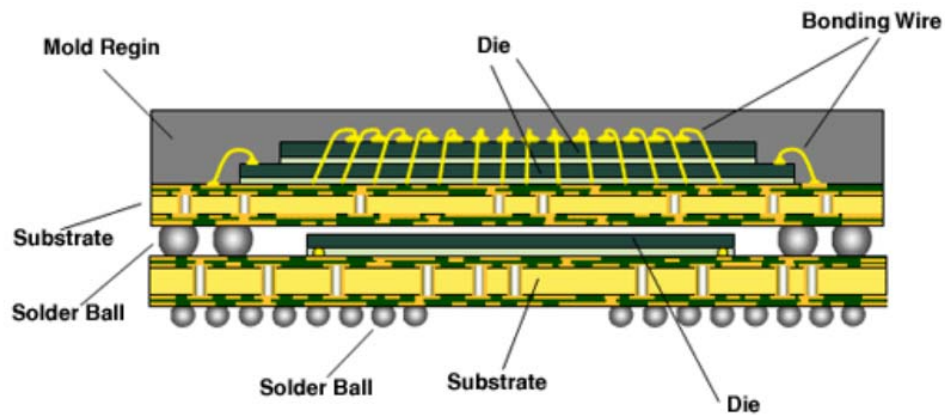

Figure 5.2
- (c) From Figure 5.2, identify two flipped die and one normally placed die. In what area is this kind of package normally applied?